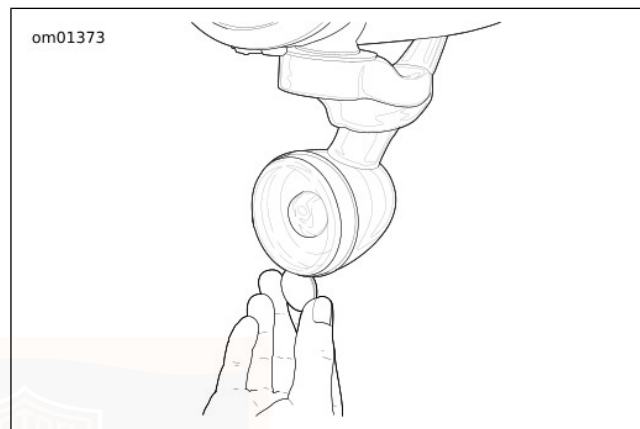

Figure 98. Lens Cap Notch
1. See Figure 98. Insert a coin or the blade of a small screwdriver into the notch at the bottom of the lens cap. Carefully twist until the lens cap pops out of the lamp housing.